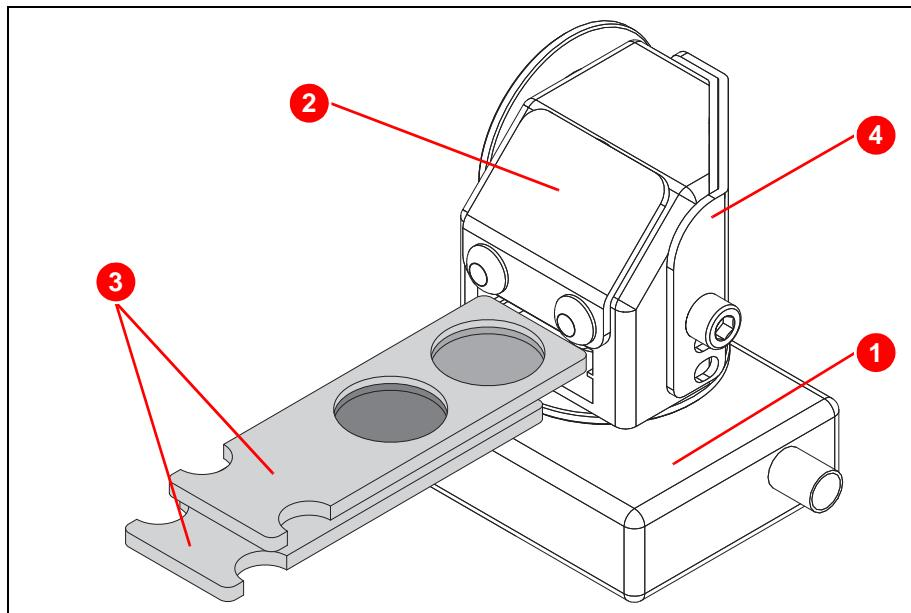

Figure 6.38 Fitting the WinCam
2. Fit the WinCam components (see figure 6.38):
- CCD camera (1),
- Attenuator block (2),
- ND filter set (3),
- Beam protection plate (4).